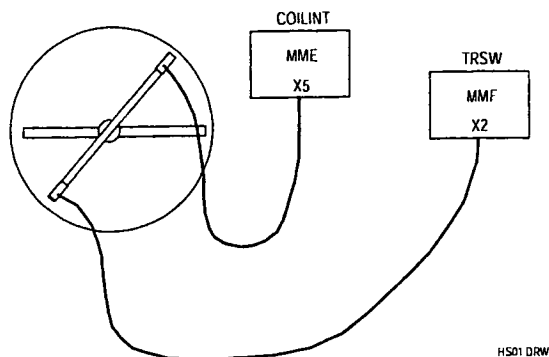

Figure 26 Measurement set-up
1. Setup the flux-probe holder as shown in Figure 26. Connect one flux-probe to MMF X2 of the TRSW board (PFEI) and the other to MME X5 on the coilint board (PFEI)
1. Setup the flux-probe holder as shown in Figure 26. Connect one flux-probe to tune A at connector MMFX2 of the TRSW board in the PFEI and the other to MME X5 on the coilint.